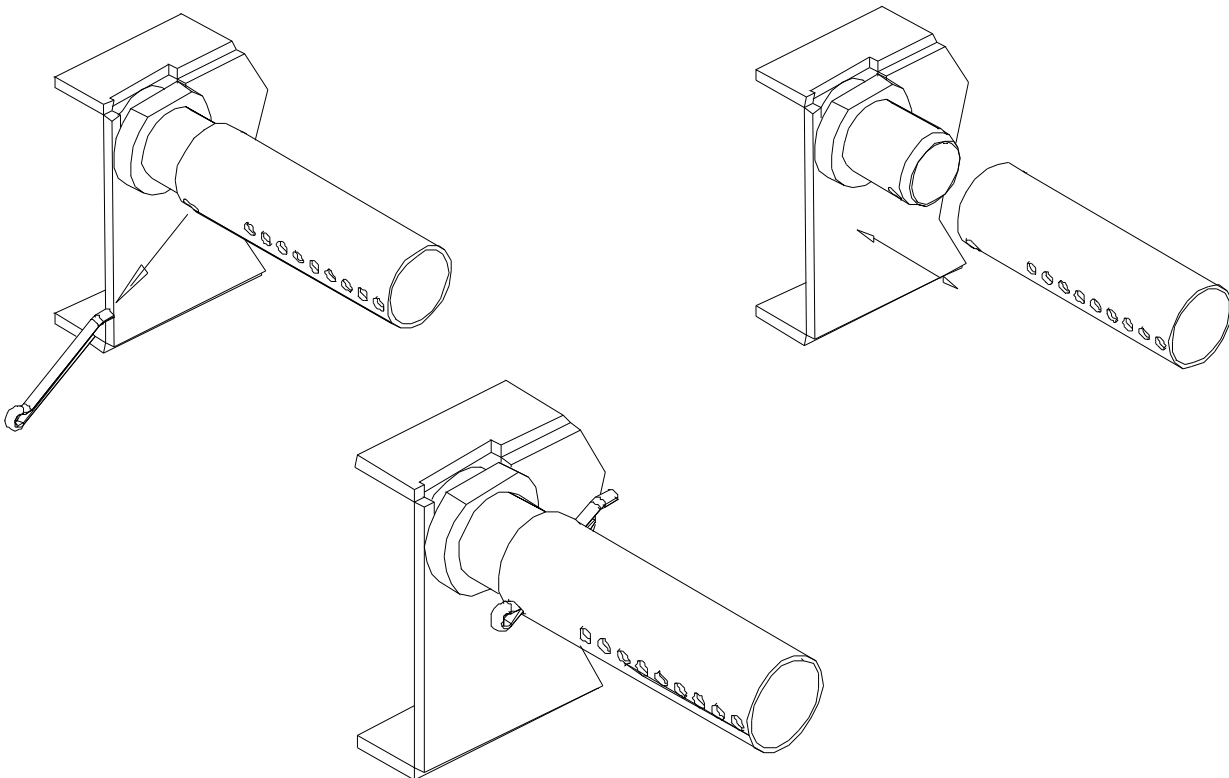

Figure 13: Secondary Air Tube replacement
3. Install the baffle support/extension (H) ensuring that it fits between the front risers and hold it in place. Install the front secondary air tube as show in figure 3c ensuring air holes face forward. Install the cotter pins as in fig 13. Installing the front secondary air tube (E) will stabilize baffle assembly during the next step.
4. Install the middle (F) and rear (G) secondary air tubes ensuring air holes face forward. Install the cotter pins as in fig 13.
(See Figure 13)